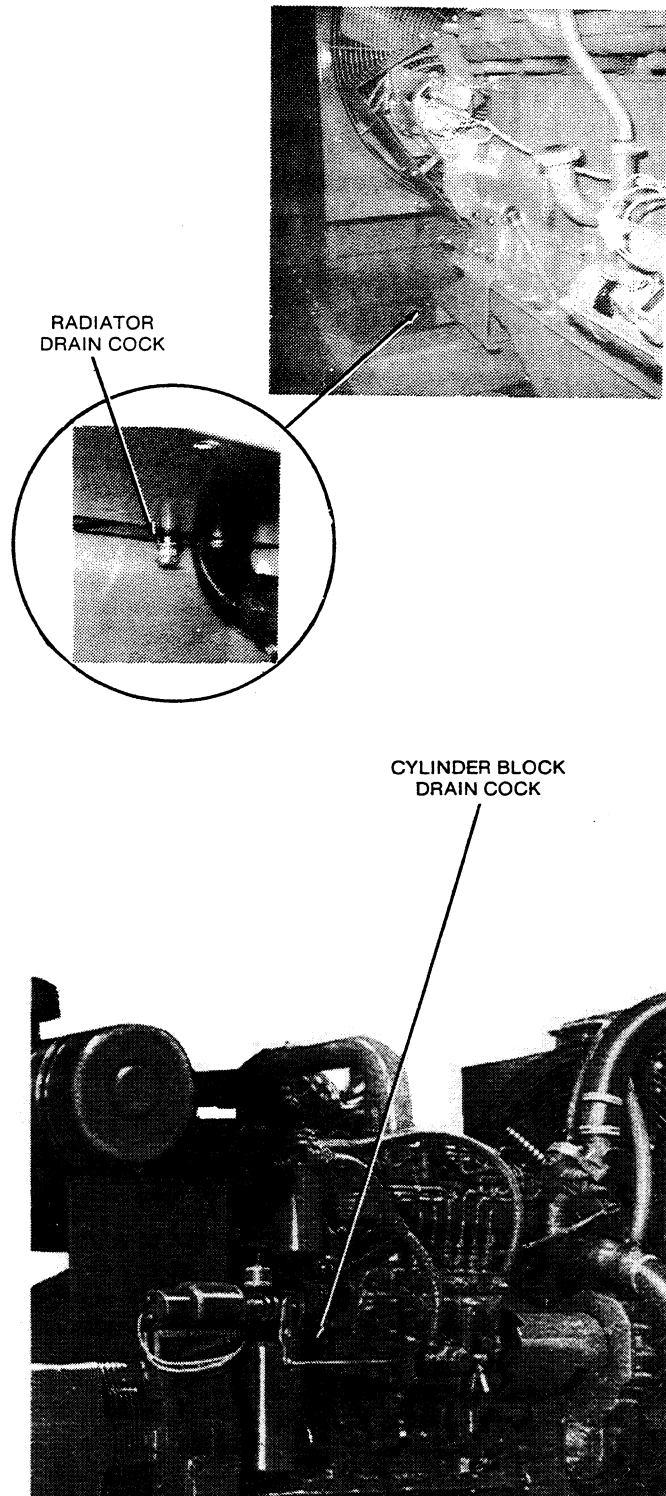

FIGURE 7. COOLING SYSTEM DRAIN LOCATIONS
- A. Remove the radiator cap and open the radiator drain cock. See Figure 7.